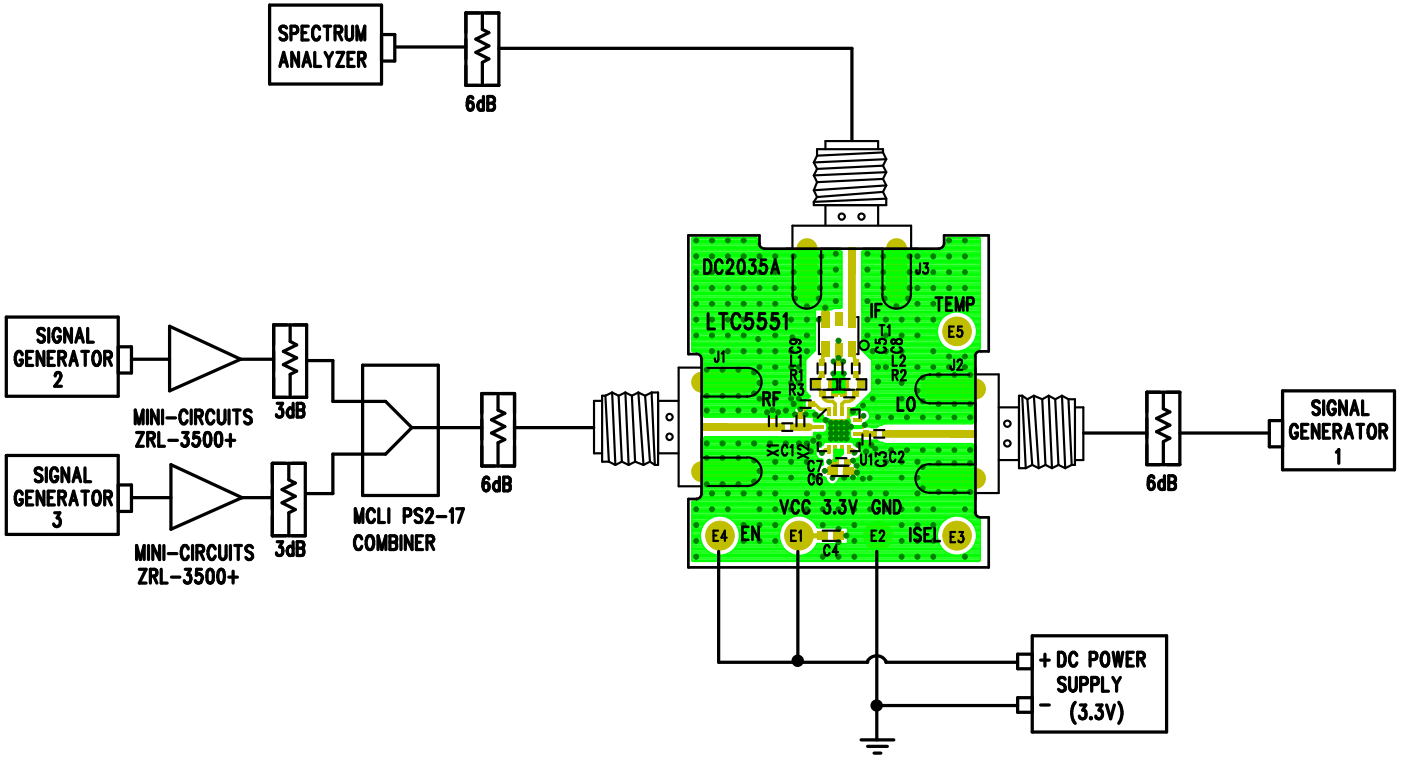

Figure 2. Proper Equipment Setup for RF Performance Measurements
1. Connect all test equipment as shown in Figure 2 with the signal generators and the DC power supply turned off.
Figure 2 can be modified for the P1dB compression measurement. Turn off one of the input signal generators, sweep the input power so that LTC5551 conversion gain is reduced by 1dB. The input power at which conversion gain is reduced by 1dB is the Input referred 1dB compression point. However, signal generators and amplifiers at the input also introduce additional compression into the signal path. Therefore, the 6dB pad after the combiner is removed for this test so that LTC5551's compression point is accurately measured.